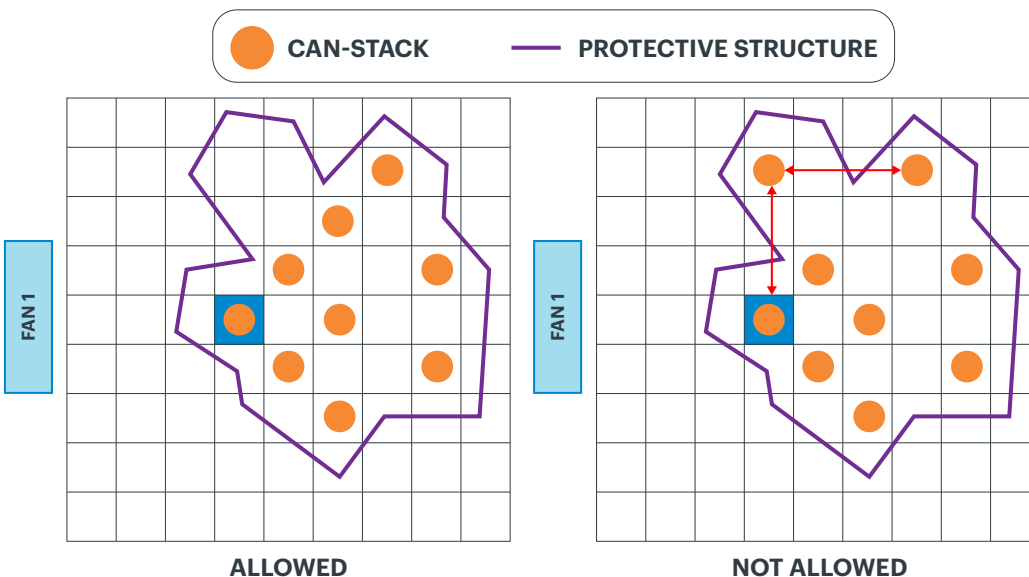

Figure 7:
9. No part of the protective structure(s) can occupy space between can-stacks (see Figure 7).